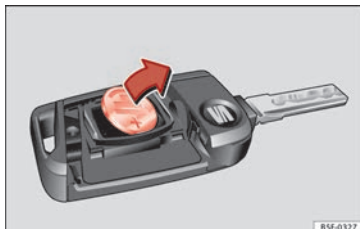

Fig. 119 Vehicle key: removing the battery
- Extract the battery from the compartment using a suitable thin object » **Fig. 119**.
- Place the new battery in the compartment as shown » **Fig. 119**, pressing in the opposite direction to that shown by the arrow » ⓘ.